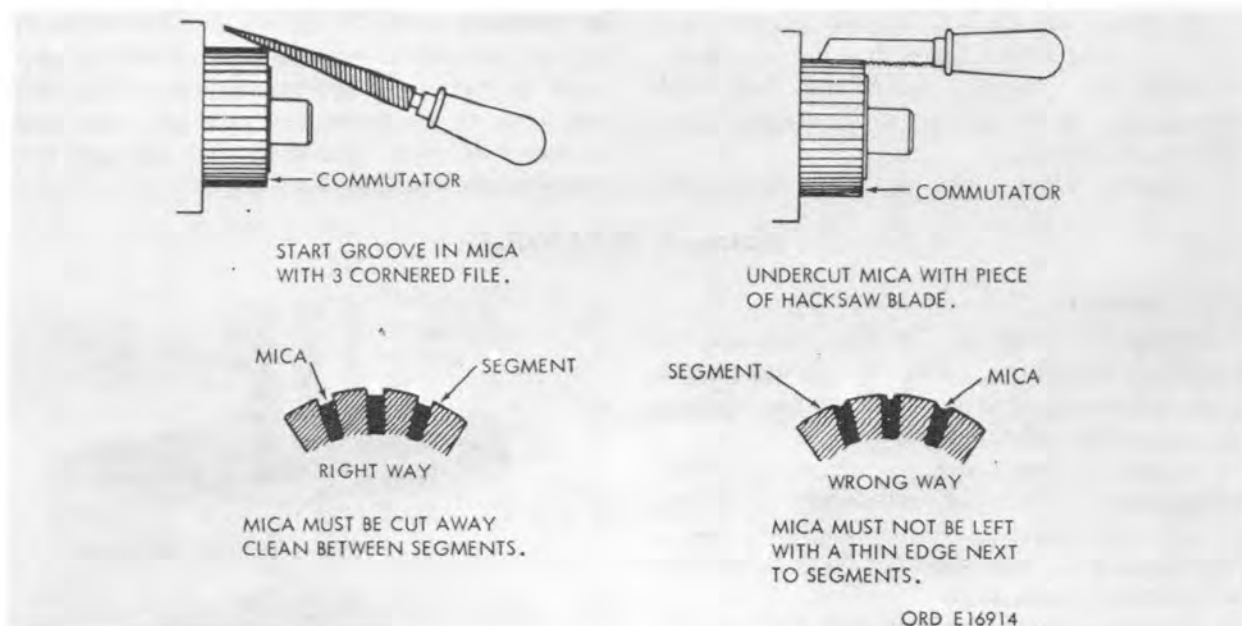

Figure 4-20. Examples of good and bad undercutting.
*Note.* Use care in undercutting. Do not widen commutator slots by removing metal from bars, and do not leave thin edge of mica next to bars. Figure 4-20 illustrates examples of good and bad undercutting.